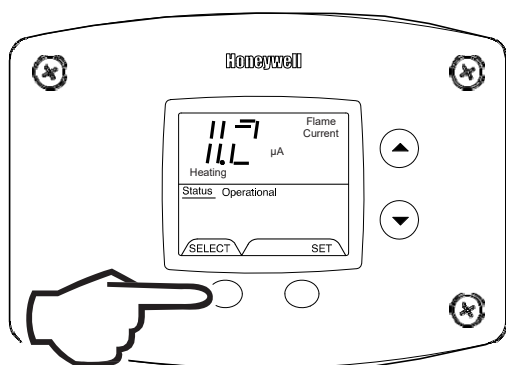

Fig. 59
3. Press the 'Select' button until a number value is displayed with 'Flame Current' to the right of the number. The value displayed is in microamps (μA). (Fig. 59)